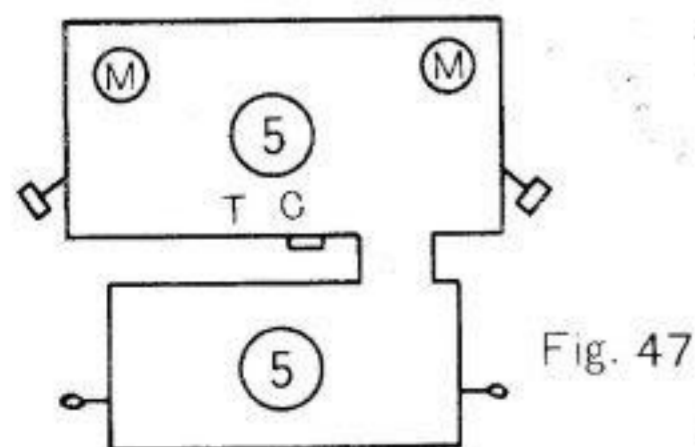

Fig. 47
10. Now turn the right hand MAS knob back to 'M' and turn the tension dial to No. 5 on the machine carriage. Release the loose end of yarn from the peg at the end of the needle bed. Turn row counter to zero and continue to knit. (Figs. 47 & 48)